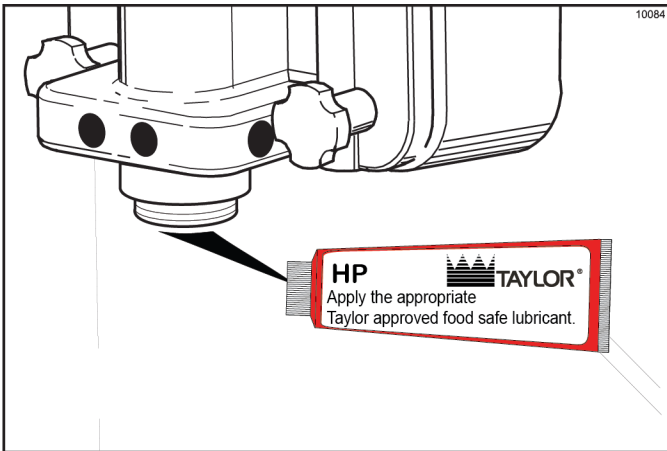

Figure 6-13
12. Lubricate the inside of the freezer door spout, top and bottom. (See Figure 6-13.)